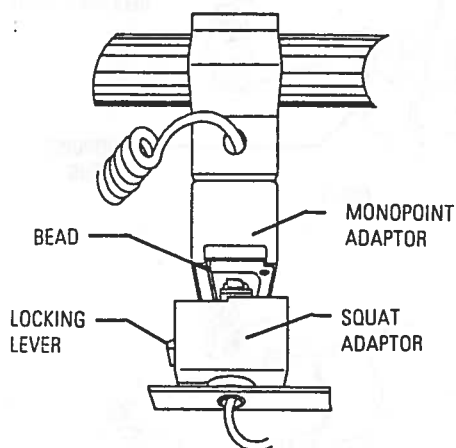

FIG. 5
1. Insert the SQUAT ADAPTOR into the MONOPOINT ADAPTOR. The LOCKING LEVER must be on the same side as the BEAD located on the MONOPOINT ADAPTOR (See Fig. 5). Rotate the SQUAT ADAPTOR 90 degrees clockwise until LOCKING LEVER locks into place (See Fig. 5, 6 & 7).